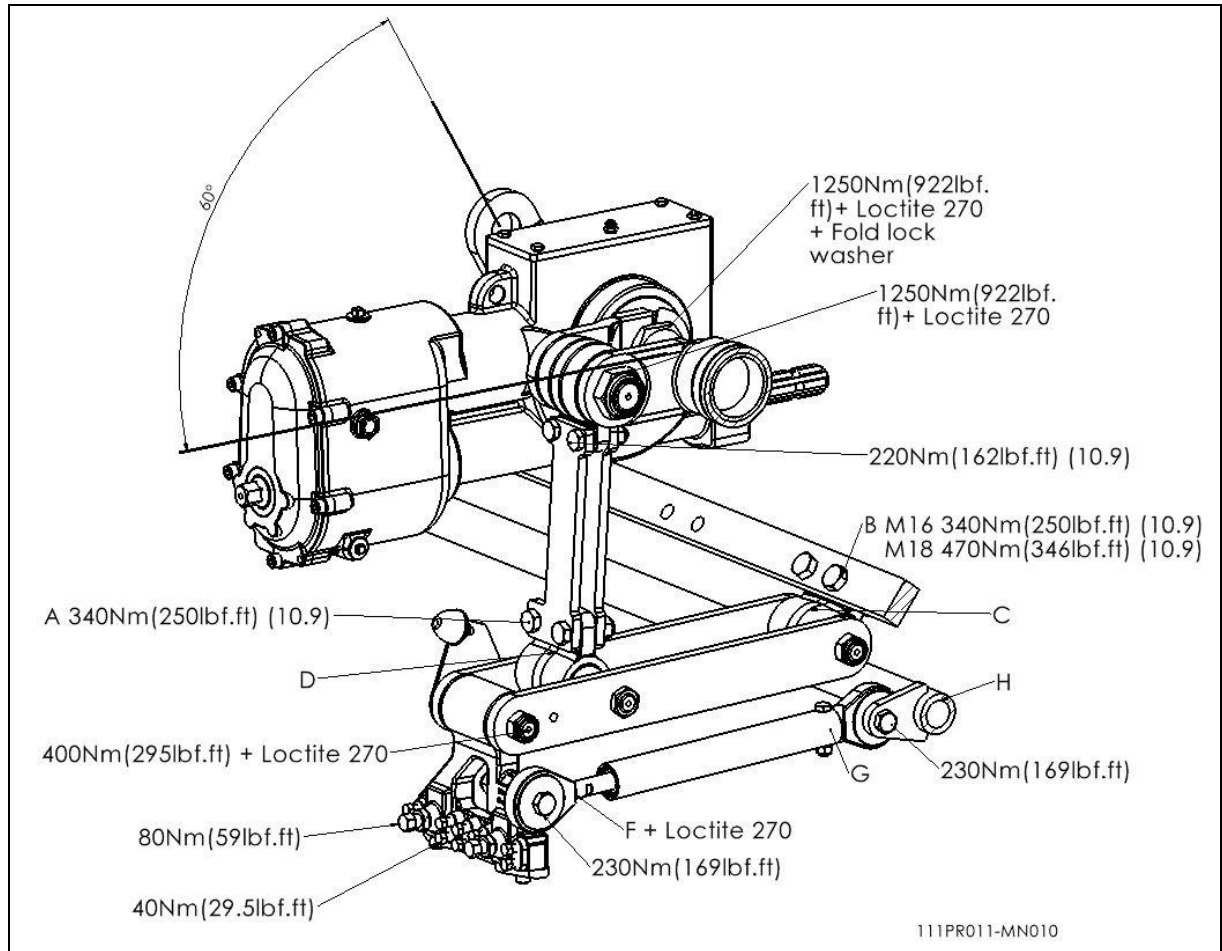

Fig. 8
In fig.8., the torque settings of the most important bolts/nuts are given. For the ones the torque setting is not mentioned, please be sure that they are tightened as a similar size bolt/nut would be tightened. If bolts/nuts are working themselves loose, Loctite may be applied.
6. After replacing the crank and/or bearing, replace the parts in the same sequence as they were removed. Use Loctite were indicated in fig.8.
In the event that an element is no longer in line with the adjacent elements, the alignment can be corrected as follows (see fig.8.):